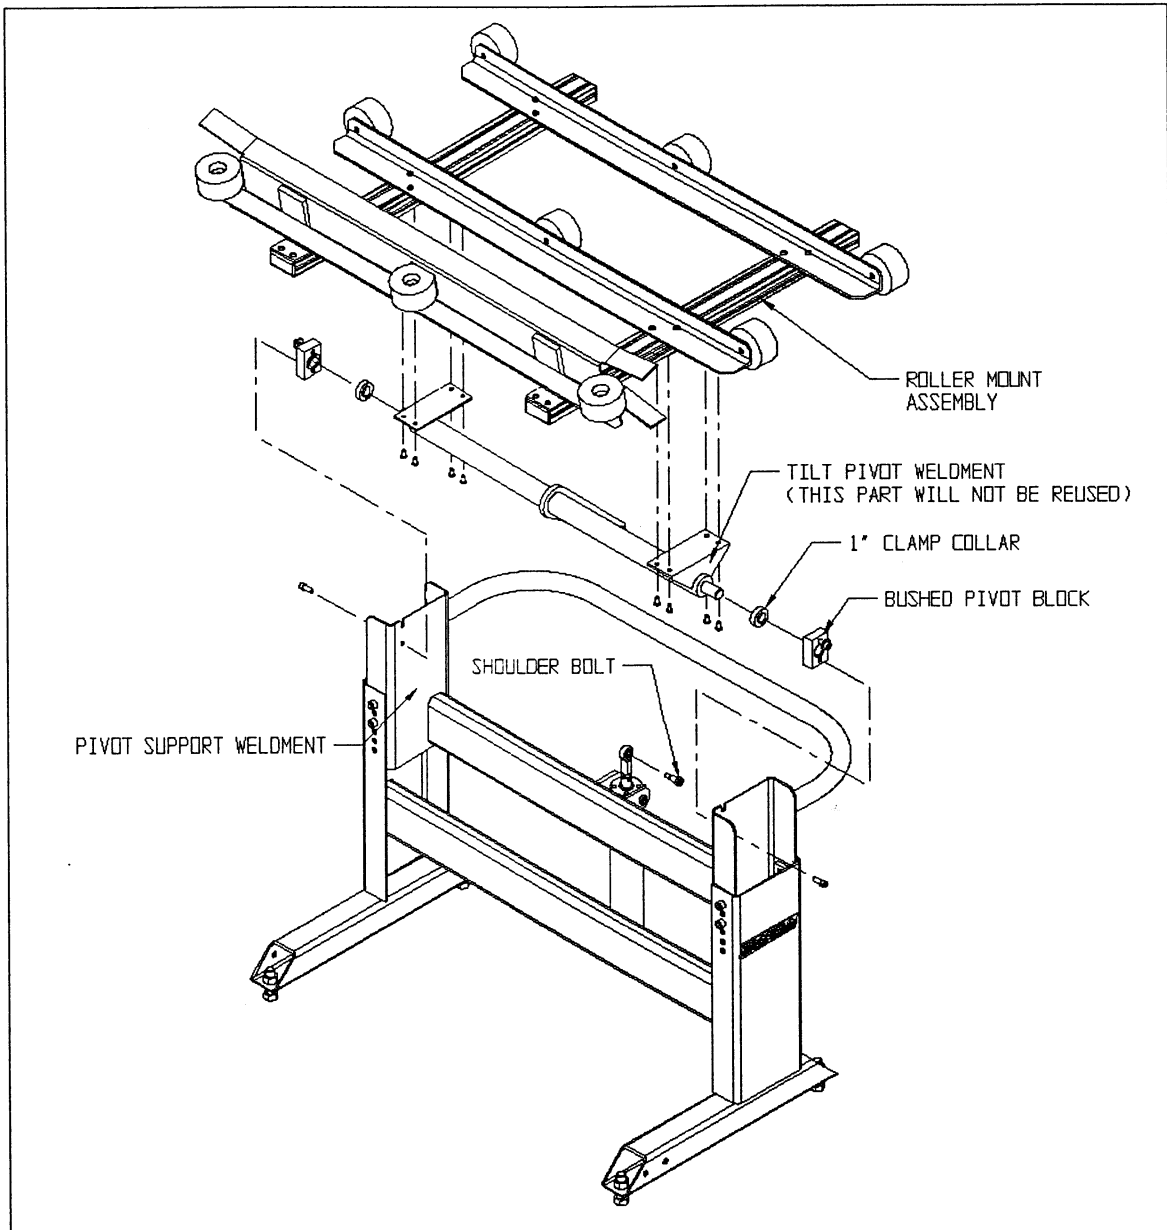

Fig. 1
- Remove the 8 bolts that hold the roller mount assembly to the tilt pivot weldment. Refer to Fig. 1.